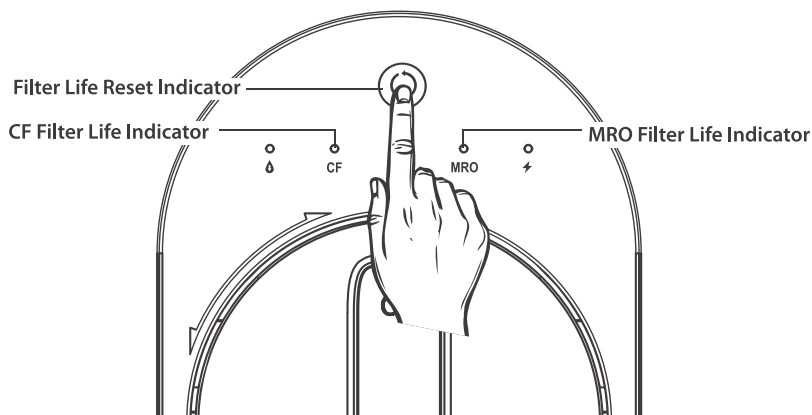

Figure 14
2. Hold the filter life reset button for 5 seconds (Figure 14). Release the button when you hear a beep. Now the filters are ready to be reset.